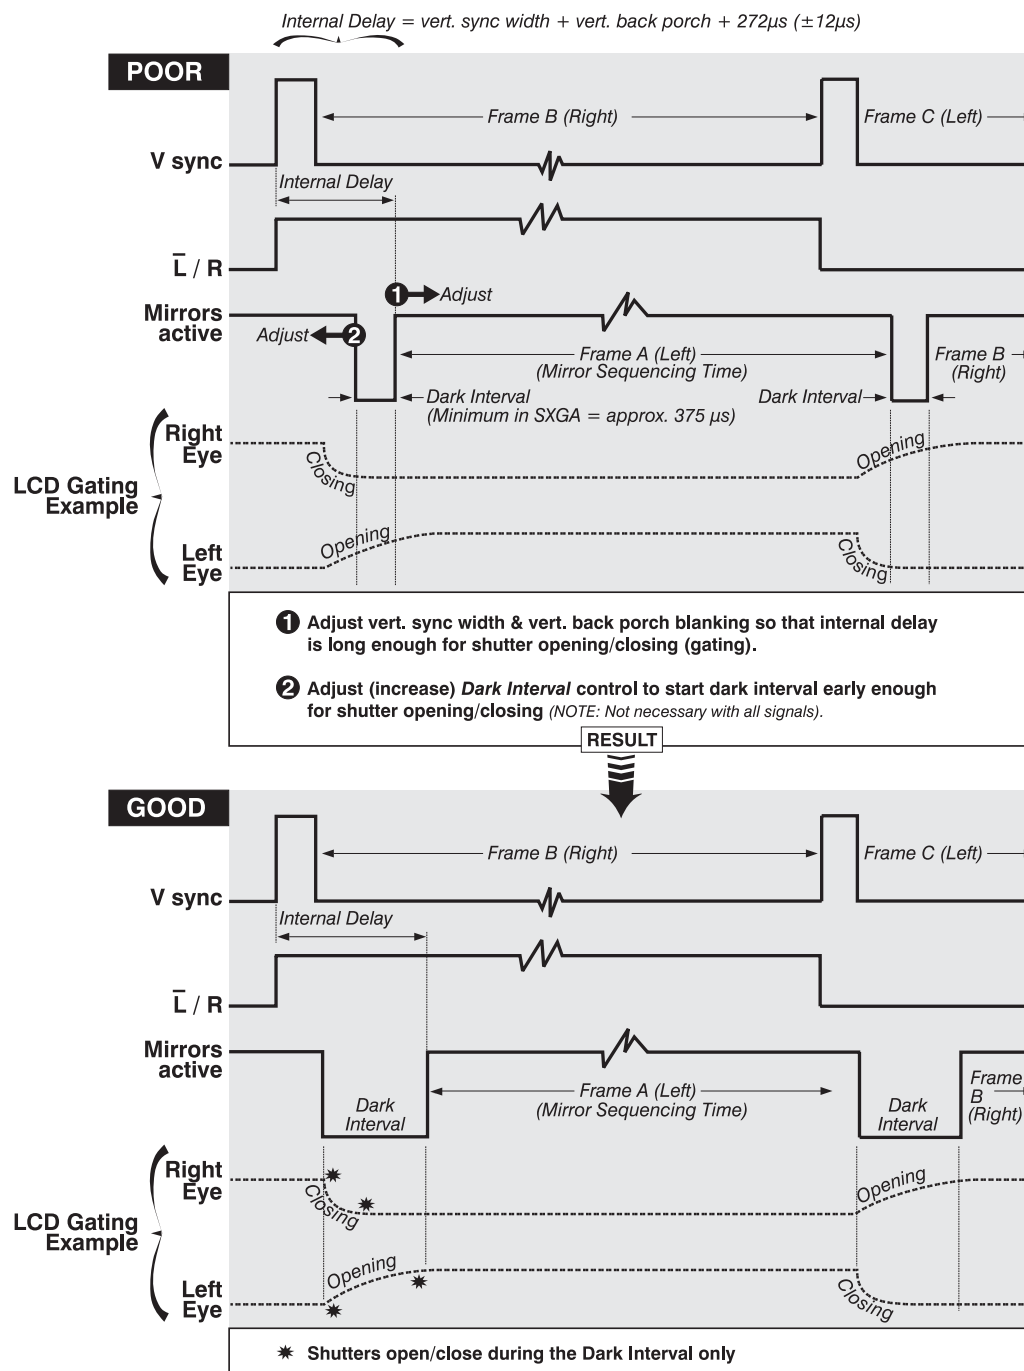

Figure 3.29. Customizing the Input Signal
- (1) **Vertical sync width** and/or **vertical back porch blanking** of your input source. Choose the vertical sync width and/or vertical back porch timing to determine when the next field begins displaying relative to the vertical sync signal. The degree of timing adjustment needed depends on the specific signal at hand as well as the performance of your glasses. An example of improvements to poor synchronization is shown in Figure 3.29. After adjustment, shutter changes occur during the dark interval between frames.
NOTE: The example in Figure 3.29 assumes that the first active line of your signal is displayed on the first line of the Mirage display panel rather than being repositioned higher or lower using the projector’s V-Position control.